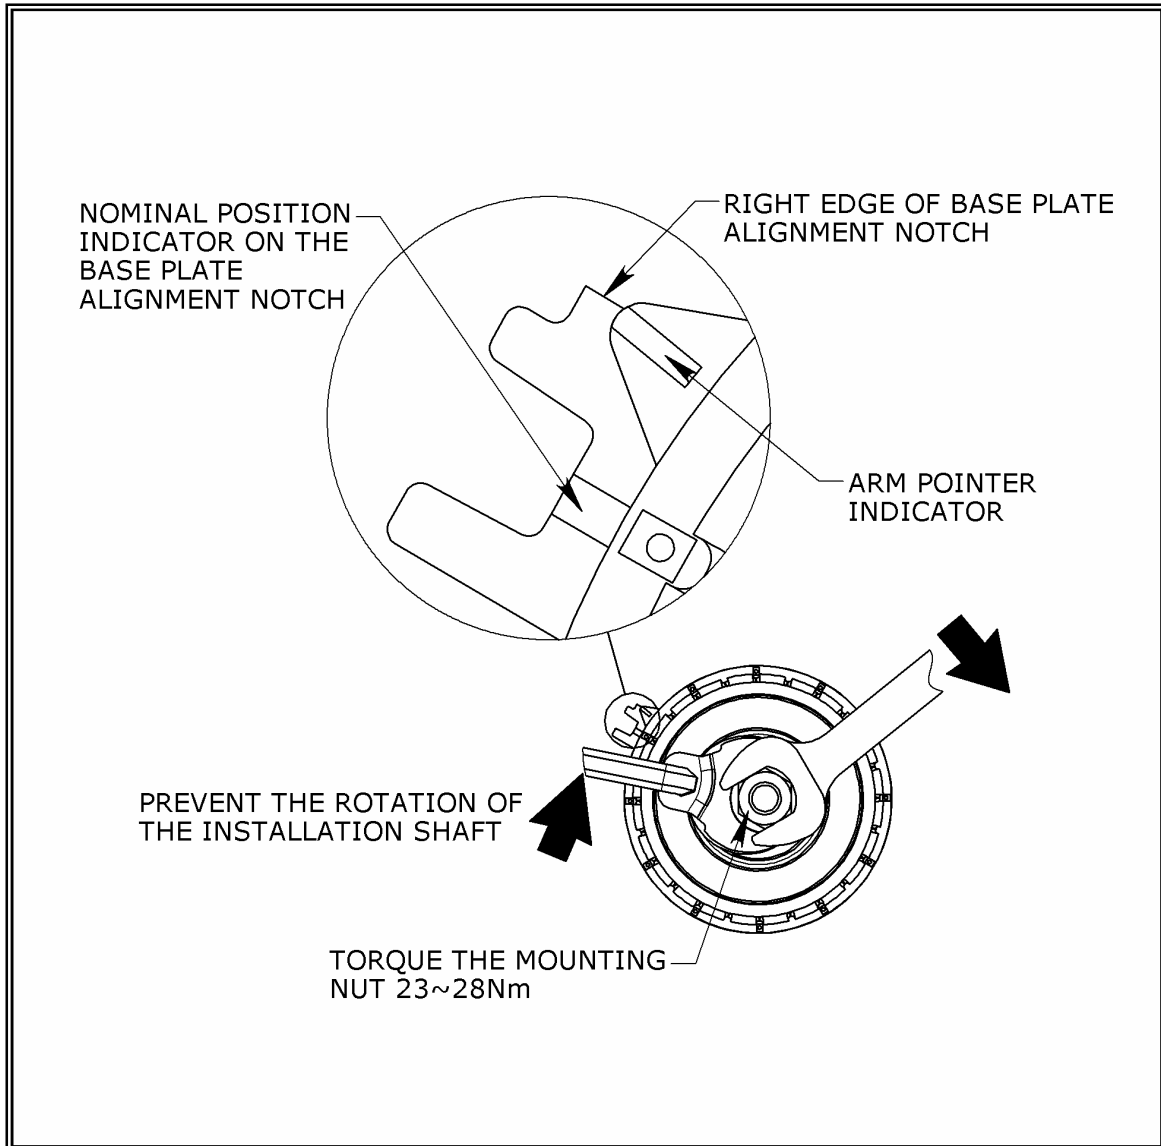

Figure 6: Initial over tension; the TBT pointer aligns approximately with the right edge of the base plate notch
9. Continue rotating the Installation Shaft so that the Arm Pointer passes the nominal notch in the base plate and approximately aligns with the right edge of the base plate alignment notch (Fig 6).